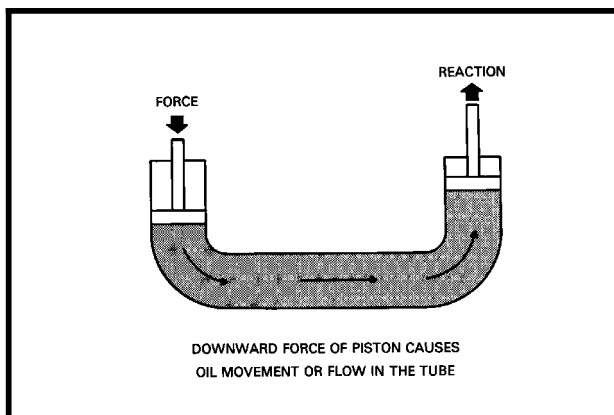

Figure 3
2. Pascal's law states that when a confined fluid is placed under pressure, the pressure is transmitted equally in all directions and on all faces of the container. This is the principle used to extend the ram on a hydraulic cylinder (Fig 3)